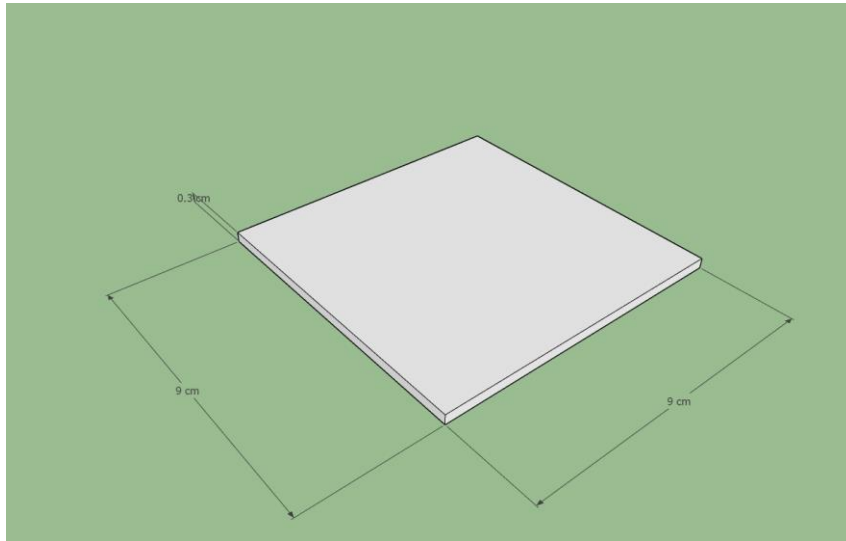

Figure 5: Sunboard sheet
- Cut the Sunboard into rectangular sheet of dimensions 9cm x 9cm. Use the sunboard of width 3mm. Figure 5 shows the sunboard sheet.